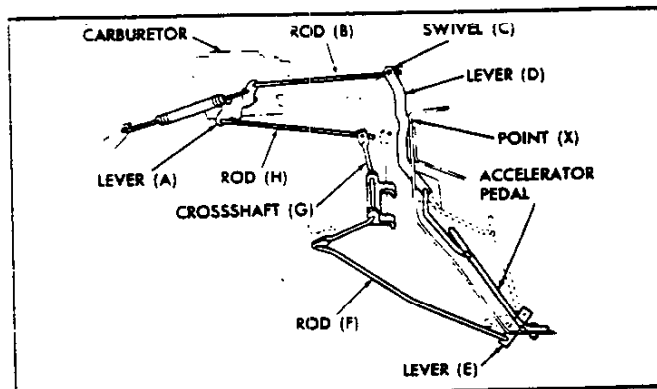

Fig. 3PG—Throttle Valve Linkage Adjustment
1. Place lever (A) (fig. 3PG) in wide open position and pull rod (H) forward until it is stopped by transmission internal stop. Adjust swivel on rod